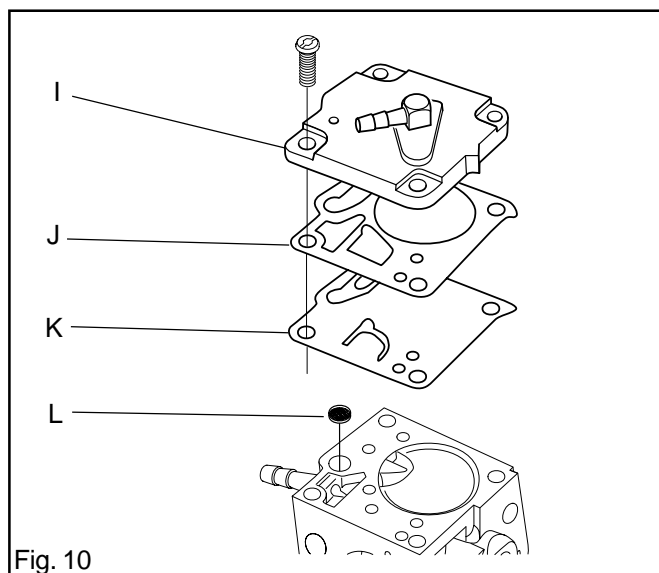

Fig. 10
9. Remove the cover (I) over the pump unit and carefully remove the gasket (J) and pump diaphragm (K). See fig. 10.
10. Use a needle or the like to carefully remove the fuel filter (L). See fig. 10.
4. The fuel filter is undamaged. See L in fig. 10.